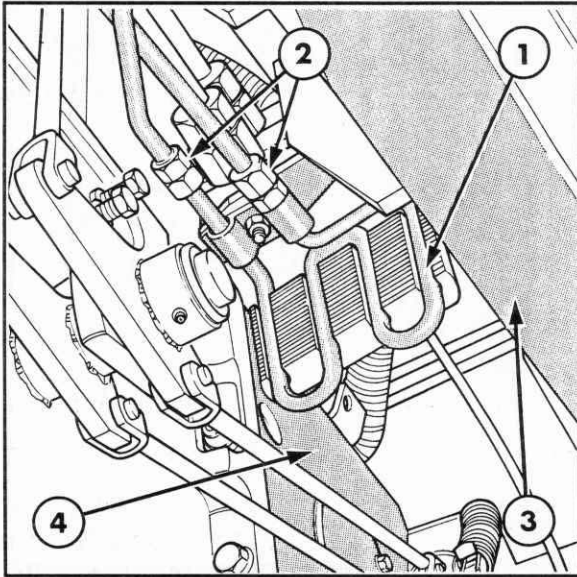

Figure 7-15
The steering cooler is located on the left side of the unit under the cab floor, just inside the step. See Figure 7-15.
2. Remove the clamp, Figure 7-15, securing the cooler lines to the mounting bracket.